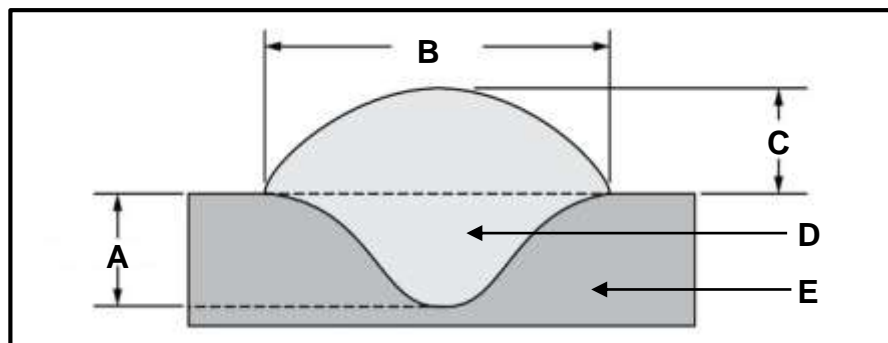

FIGURE 8.4
8.4 FIGURE 8.4 below shows weld dimensions. Label A–E.